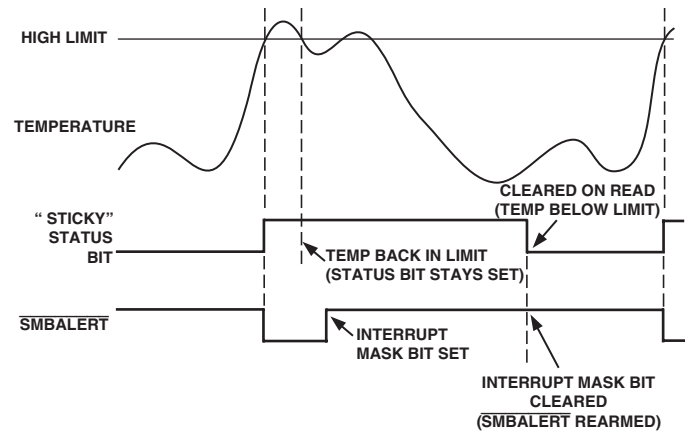

Figure 24. How Masking the Interrupt Source Affects SMBALERT Output
7. Periodically poll the Status Registers. If the interrupt status bit has cleared, reset the corresponding Interrupt Mask Bit to 0. This will cause the SMBALERT output and status bits to behave as shown in Figure 24.